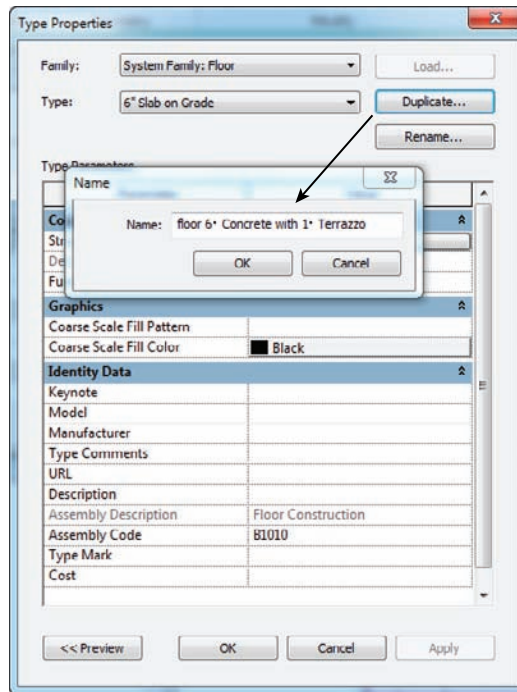

FIGURE 6.19 Duplicating the existing floor
6. Call the new floor **6" concrete with 1" Terrazzo** (see Figure 6.19).